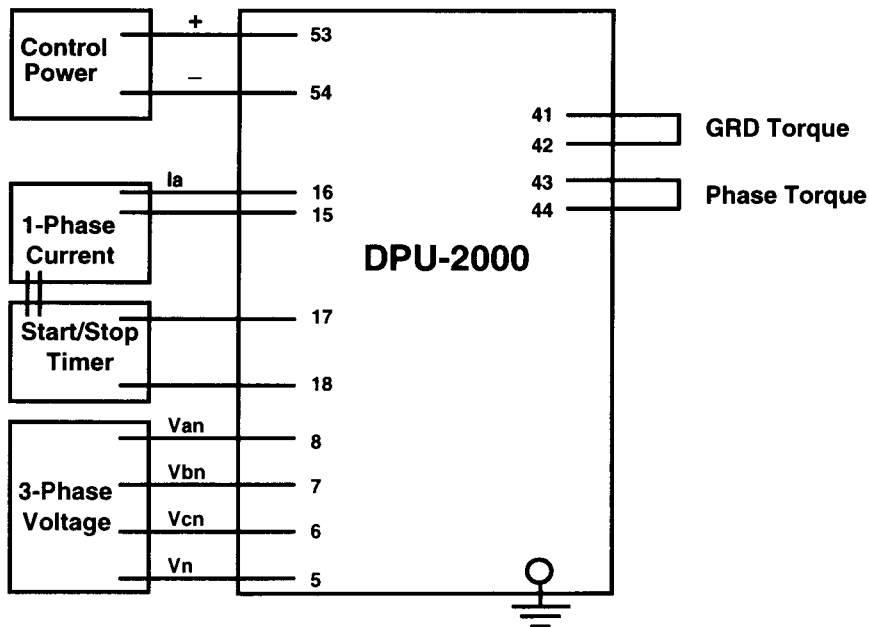

Figure 33. Test Circuit for Timing and Recloser Lockout
1. Connect the DPU-2000 as shown in Figure 33.
k. Apply the following test values as shown in Figure 33:
- a. Connect the DPU-2000 as shown in Figure 33.